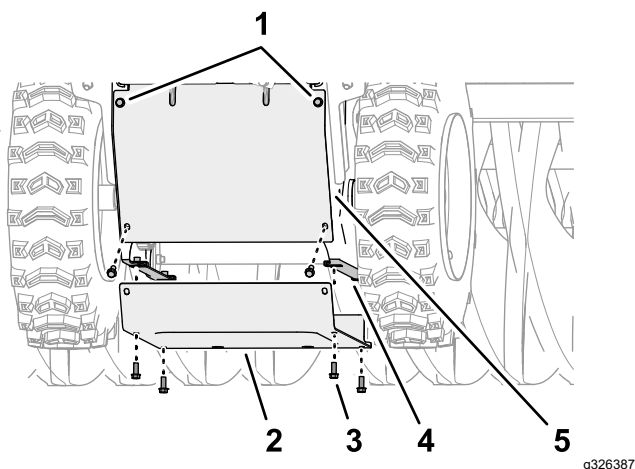

Figure 51
4. At the bottom of the machine, align the holes in the bottom cover with the holes in the flanges of the left and right side plates (Figure 51).
5. Assemble the bottom cover to the machine (Figure 51) with the 6 flange-head capscrew (1/4 x 5/8 inch).
6. Tighten the 2 top flange-head capscrew (1/4 x 5/8 inch) that secure the rear cover to the machine (Figure 51).